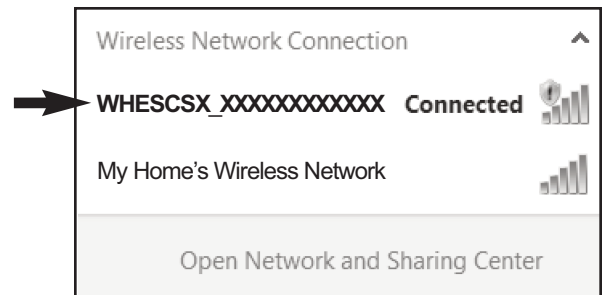

FIG. 21
3. You will be disconnecting your device from your home's Wi-Fi network (you will temporarily connect to a different network). Select the network that begins with "WHESCS" (See Fig. 21), and connect your device to it.